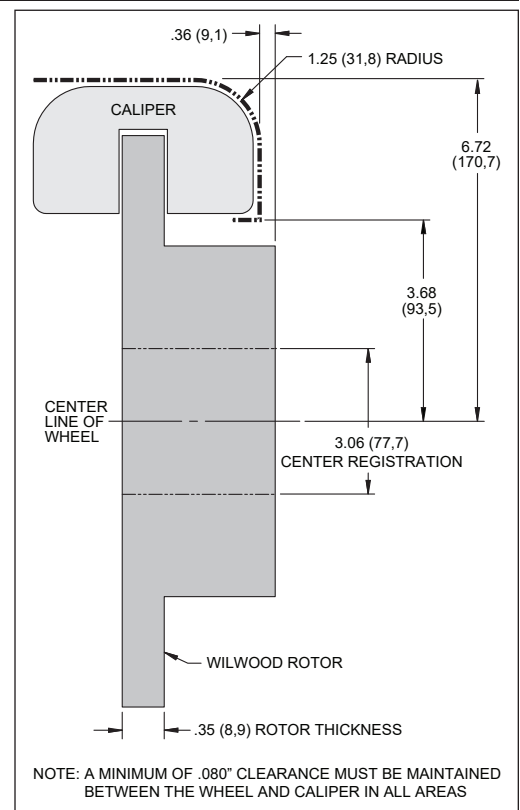

Figure 2. Wheel Clearance Diagram
- Review the Wheel Clearance Diagram (Figure 2) to verify that there is adequate clearance with the wheels you will be using with the installation.
- Verify your wheel clearance using Figure 2.